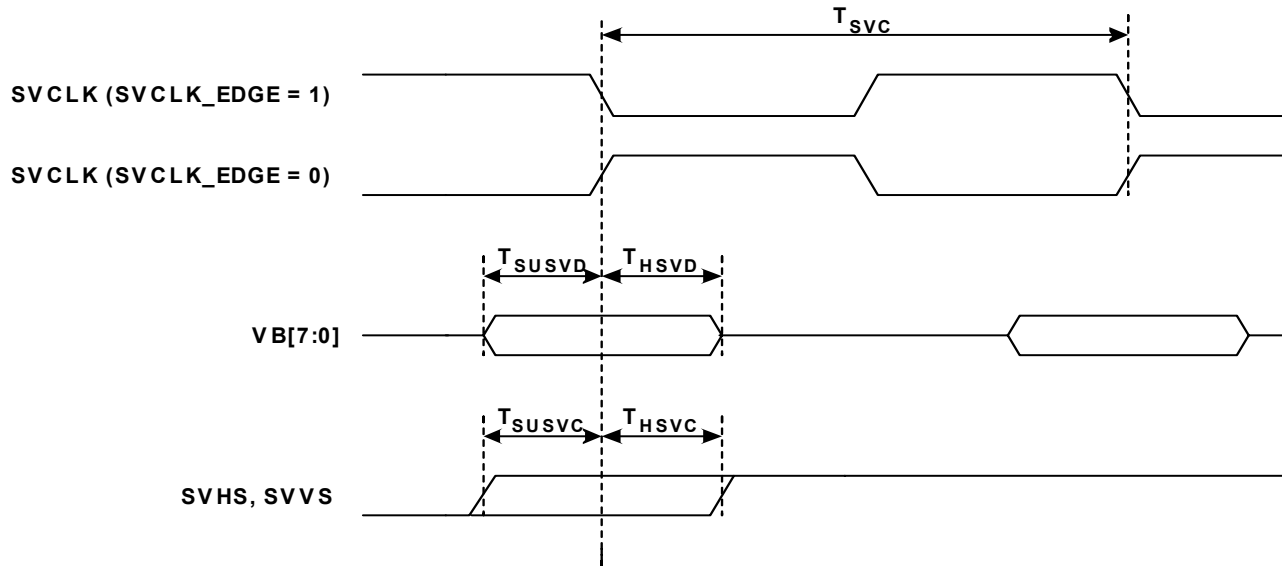

Figure 3-2 Secondary Video (SV) Port Timing
3.4 Secondary Video (SV) Port AC Timing Characteristics
Figure 3-2 illustrates the AC timing characteristics for the Secondary Video (SV) Port on the SignalProcessor: